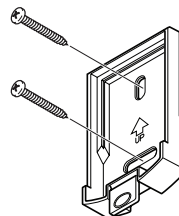

Figure 3
2. Place the mounting plate against the mounting surface and ensure the mounting plate is level. Mark the hole locations (see Figure 3).